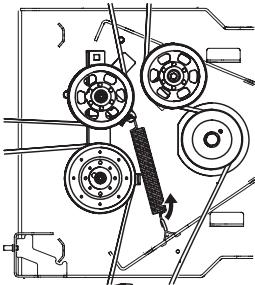

Figure 40
- b. Remove the idler spring from the wireframe spring hook on the right side of the center of the deck (Figure 40).